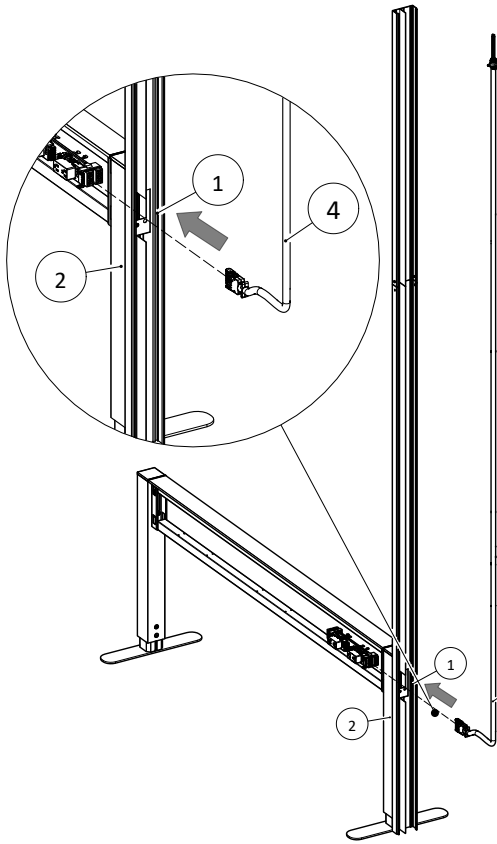

Figure 7
STEP 5: Connect the ceiling infeed to the power distribution box and run the data and ceiling infeed inside the power pole, as depicted in Figures 7 or 8. Note that the arrow and the letter "N" indicate the correct orientation (facing up) for connecting the power pole infeed to the power distribution box.